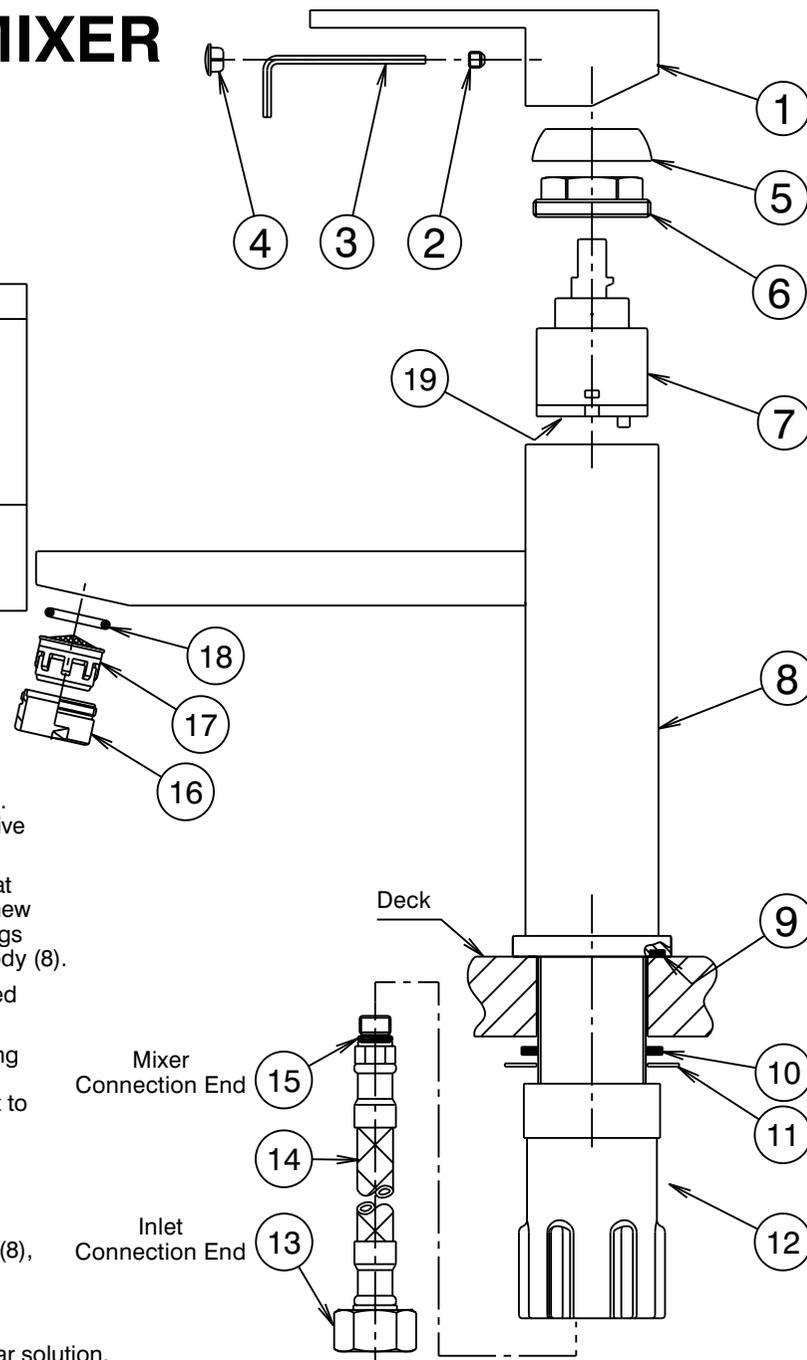

Fig. 1
- 1) From fixing pack fit seal (9) into groove in base of mixer (8).
- 2) *Flexible Tail Mixer Connections:* Apply suitable lubricant to 'O' rings (15). Fit flexible tail (14) (with red indication) into inlet fitting marked with a Red Dot in underside of mixer body (8). Hand tighten the tail, ensuring the 'O' ring (15) has fully entered the sealing bore to provide a watertight joint. Fit other flexible tail (with blue indication) into remaining fitting in a similar manner.
- 3) Insert the inlet connection end (13) of each flexible tail (14) through the hole in the deck. Insert threaded tail of mixer (8) into deck hole, fit rubber washer (10), followed by metal washer (11), over the threaded tail of the mixer (8) as shown (Fig. 1). Screw on nut (12) and tighten firmly by hand to secure the mixer to the deck.
- 4) *Flexible Tail Inlet Connections:* Connect the flexible tails (14) to the hot and cold isolating stop taps, hand tighten the connecting nut (13) until rubber cone contacts the sealing face of the connection end, then tighten a further one turn to provide a watertight joint.